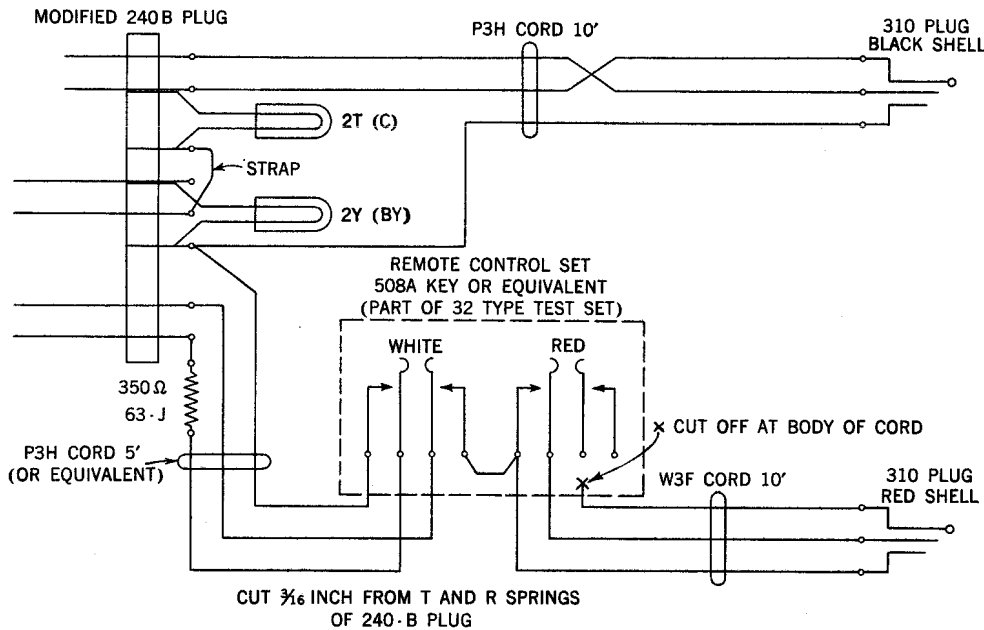

Fig. 1
2.02 Test cord assembly to be prepared locally as shown in Fig 1. Rearrange the lamp springs on 240B plug to permit connecting as shown and equip with 2T and 2Y lamp. Modify P3H cord (or equivalent), 5 feet long, with suitable cord tips for connecting to remote control key. Connect P3H cord and W3F cord to test plug and remote control set as shown. Mount 63J resistance on handle of test plug.
2	Insert red shell plug of test cord assembly (Fig. 1) into BR jack of test set.
| 6 | Insert black shell plug of test cord assembly (Fig. 1) into V-BR jack of test set. |
| 8 | Insert black shell plug of test cord (Fig. 1) into V-M jack of test set. |